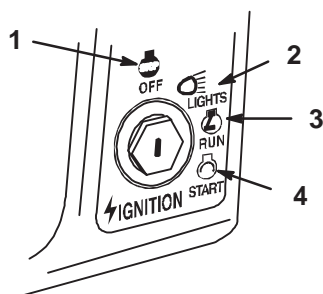

Figure 4
6. Turn the ignition key and hold it in the start position (Fig. 4). When the engine starts, release the key.
- Turn the ignition key to off (Fig. 4).